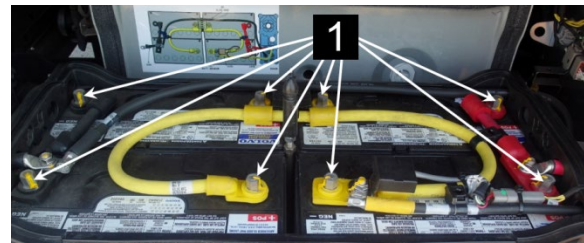

FIGURE 58: INSTALL THE BATTERY CABLE LUGS
- Connect the battery cables. Tighten the cable terminal (item 1, FIGURE 58) nuts to the following torque: